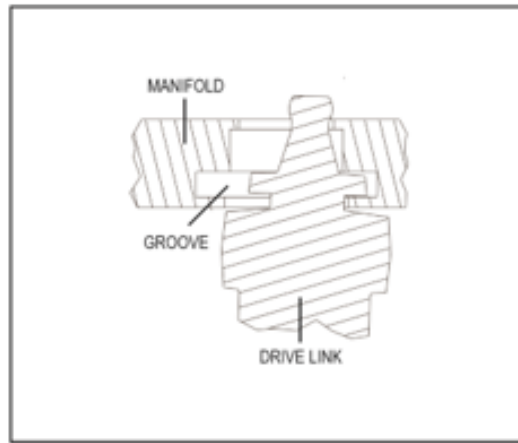
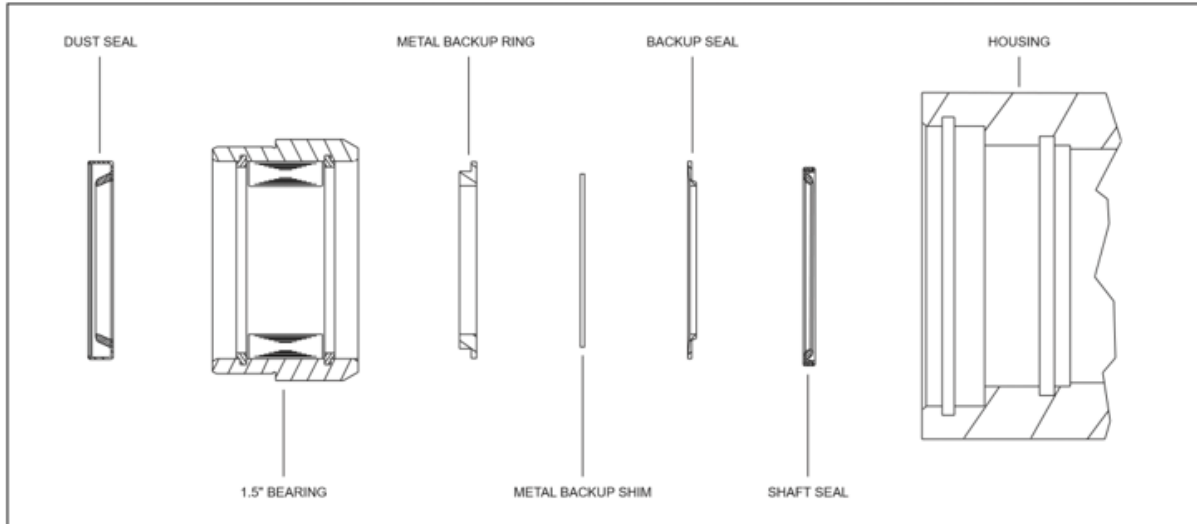

Figure 6: Drive link – Manifold connection
Figure 7: Correct orientation
- A) Remove nut (31) from shaft (28). To aid in reassembly of the motor, make a “V” shaped set of lines from the endcover to the housing using either paint or a marker. With shaft facing up, secure motor in vise by clamping on to housing (15).
- C) At this point flip the housing over and secure in a vise with the four endcover bolts face up. Loosen and remove four bolts (27) holding motor assembly together. Remove endcover (25) from motor making sure not to drop endcover piston (23). Using needle nose pliers or two small screwdrivers, lift endcover piston (23) out of endcover (25). Remove backup seal (8) and O-ring seal (7) from endcover piston (23) and discard. Remove the piston spring (24) from endcover (25) and lay aside.
- D) Lift commutator container and commutator (22) from motor and lay aside. Place commutator on a flat, clean surface with the seal (6) facing up. Place the tip of a small screwdriver on the seal (6) and gently tap until opposite side of seal lifts from groove. Remove seal (6) and discard.
- E) Remove manifold (21), rotor assembly (20) and mid-mount plate (18) from motor. Remove all seals (5) from components and discard. **(Caution - Do not allow rolls to drop from rotor assembly when removing rotor assembly for motor.)** Remove drive link (19) from motor and lay aside. Remove the thrust bearing (17) from the housing (15) and lay aside.
- F) Remove housing (15) from vise and lay on flat surface with shaft (28) facing up. Remove the key (29) from the shaft and set aside. Remove the retaining ring (10) from the front of the housing. Pry the dust seal (1) from the bearing (12) and discard.
- G) At this point the shaft can be pulled through the front of the housing (15). Carefully remove the bearing (12) from the shaft, making sure not to drop any rolls from the bearing. Once the bearing is removed, remove the remaining components from the shaft. The metal backup ring (2) may have remained in the bearing (it is not necessary to remove). Remove backup shim (2a), the backup seal (3), shaft seal (4), and washer (13), bearing (14) washer (13) from the shaft (28). Discard items 2a, 3, and 4. Remove the housing seal (9) from the inner groove in the housing and discard.
- I) With shaft upright, place a washer (13), then bearing (14) then washer (13) onto the shaft. Then using Figure 7 for correct orientation, install metal backup ring (2) if it fell out of the
bearing, backup shim (2a) backup seal (3) and shaft seal (4) into the Bearing (12). Place side of bearing (12) with seal down on a flat surface and press down to seat seals in bearing (12). Place the bearing over the shaft (seal side down) Install the dust seal (1) in the opposite side of the bearing (12) using Figure 7 for correct seal lip orientation. Gently tap dust seal (1) down into top of bearing. Make certain that shaft seal and dust seal are coated with oil to provide start-up lubrication.
- J) Place housing seal (9) into the groove in the housing before shaft is placed in the housing. Place bearing spacer (11) onto the shaft and drop shaft into the front of the housing. Insert retaining ring (10) into top groove in housing.
- K) At this point, flip housing over, and secure in vise. Place thrust bearing (17) into rear housing bearing (16).
- L) Place a body seal (5) into the groove in the rear face of the housing. Insert the drive link (19) into the shaft with the tapered end facing up. Place the mid-mount plate (18) over the drive link (19) and onto the housing making sure to use the alignment marks as a guide to assure correct orientation of the mid-mount plate (and the remaining components).
- M) Place a body seal (5) into the groove in the face of the rotor assembly (20). With the seal side of the rotor assembly (20) facing the mid-mount plate, line up the splines of the drive link (19) and the rotor assembly (20) and lower the rotor assembly onto the housing (16).
- N) Place a body seal (5) into the groove in each face of the manifold (21). Lift the drive link (19) approximately .100 in and place the tip of a small screwdriver under the disk-shaped portion of the drive link to hold it up. Making sure that the notch in the manifold is aligned with the notch in the rotor and that the side with the largest holes faces down. Lower the manifold (21) onto the motor and engage the disk shaped portion of the drive link (19) into the groove in the manifold (21) (See Figure 6). Remove the screwdriver and lower the manifold (21). If the disk is engaged in the groove, the end of the drive link will protrude above the surface of the manifold. If it doesn't, remove the manifold and repeat this step. Using bolts or line up pins align the components assembled thus far. Make sure that components are matching the "V" shape that you drew earlier and that the bolt holes are all aligned. Once everything is aligned make sure that the drive link is still engaged in the manifold. ***(The motor will not operate if the drive link is not engaged in the manifold).***
- O) Install the commutator seal (6) into the commutator (22) with the metal side facing up. Use finger pressure to press the seal down flush with the surface of the commutator. Place the commutator container (22) onto the manifold (21) and then place the commutator onto the protruding end of the drive link (19) making sure that the seal side faces up.
- P) Install the remaining body seal (5) in the groove in the face of the endcover (25). Install the piston spring (24) into the endcover (25), then the backup seal (8), followed by the O-ring seal (7). Lining up the alignment pin, press the piston (23) into the endcover (25). While holding the endcover piston (23) into the endcover (25), lower the endcover assembly onto the motor.
- Q) Install the four assembly bolts (27) and pre-torque to 10 ft. lbs. Final torque all bolts to 50 ft. lbs.
- R) At this point flip the motor over with shaft side up. Place brake (30) on housing in the same direction as it was before it was removed. Bolt it down using the four remaining lock washers and bolts. Release tension on the brake and lower the hub onto the brake. Install lock nut (34) and torque to 250 - 350 ft.lb.